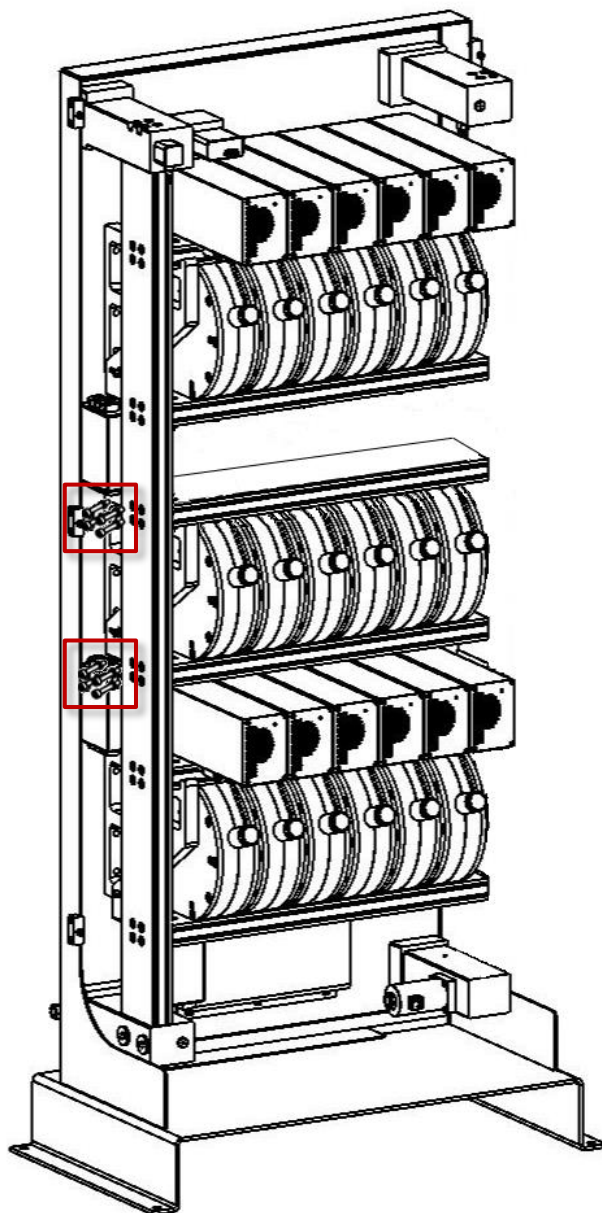

Figure 72 Remove screws for the broken reactor on the left vertical bar
12. Remove the eight screws on the left side (M6) for the reactor block that is to be changed, see Figure 72.